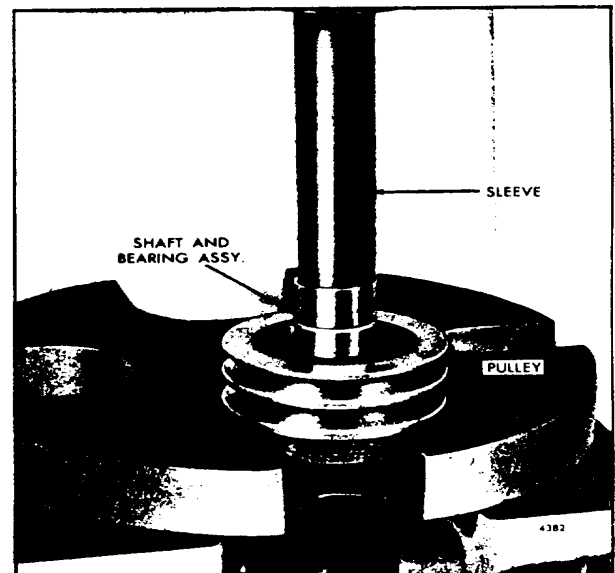

Fig. 3. - Installing Shaft and Bearing Assembly
1. Apply a minimum of 2500 lbs pressure only on the outer race of the bearing as shown in Fig. 3 and press the bearing and shaft assembly into the idler pulley until the outer race of the bearing is flush with the inside surface of the pulley.